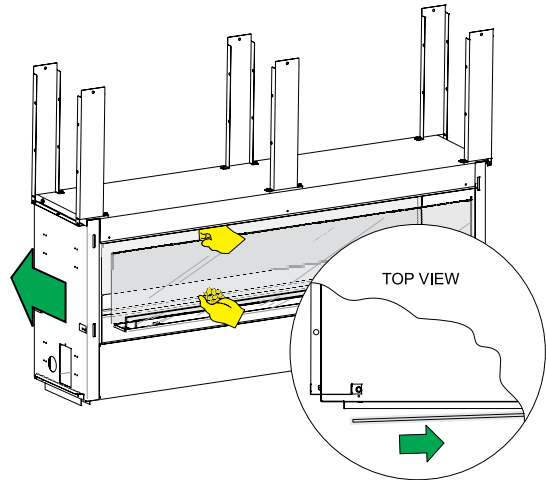

Figure 34
3. Replace the glass front into the fireplace by placing the right side into the slots in the firebox. Carefully angle in the left side of the glass and then slide the glass to the left. Settle the glass into the slots by gently lowering it. **See Figures 34 - 36.**